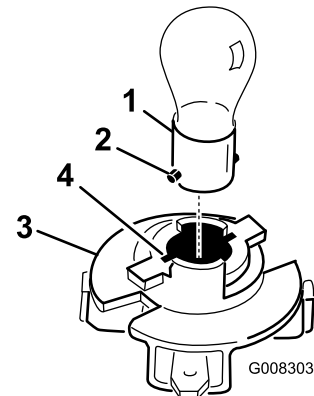

Figure 31
8. Push and rotate the bulb counterclockwise about 1/4 turn until it stops and remove the bulb from the bulb holder (Figure 31).
1. Align the metal pins on the base of the bulb with the slots in the bulb holder and insert the base into the holder (Figure 31).
3. Align the tabs on the bulb holder (Figure 31) with the slots in the reflector.